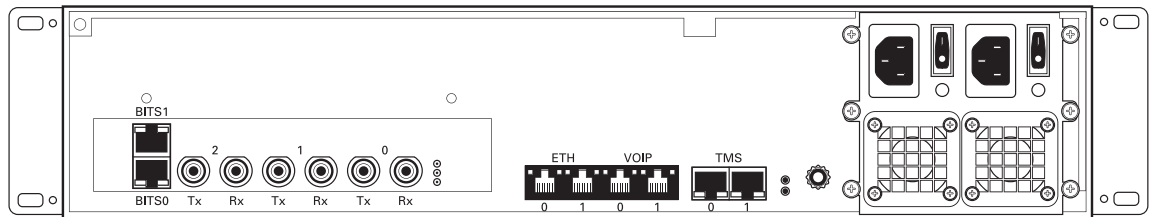

Figure 2.7 DS3 Interface to the PSTN
A TMG3200-DS3 with 3 sets of BNC connectors enables the connection to DS3 lines. See figure 2.7 on page 22.
1. Start with the Dual BNC port pair #0 (right-most) as shown in figure 2.7 on page 22. Connect one pair of BNC cables between this port and the DS3 line.